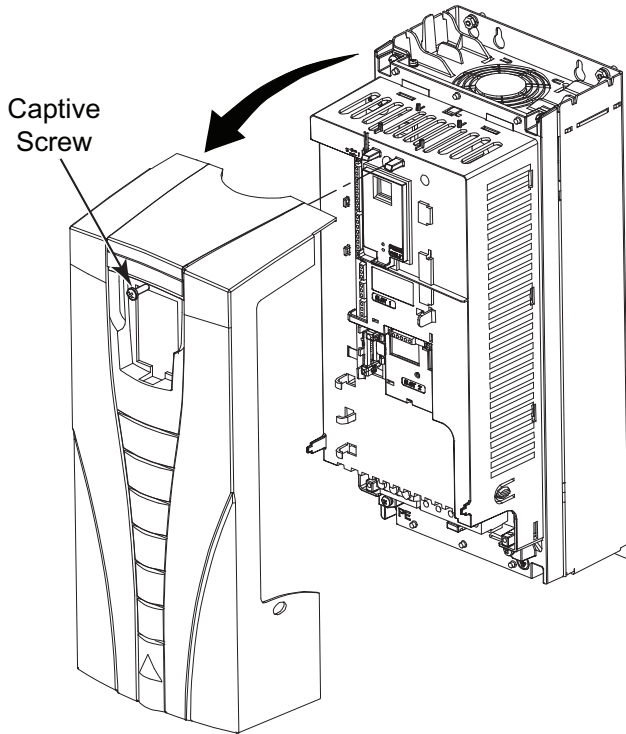

Fig. 35 — Remove AHC550 VFD Front Cover
2. Remove the drive cover (see Fig. 35).